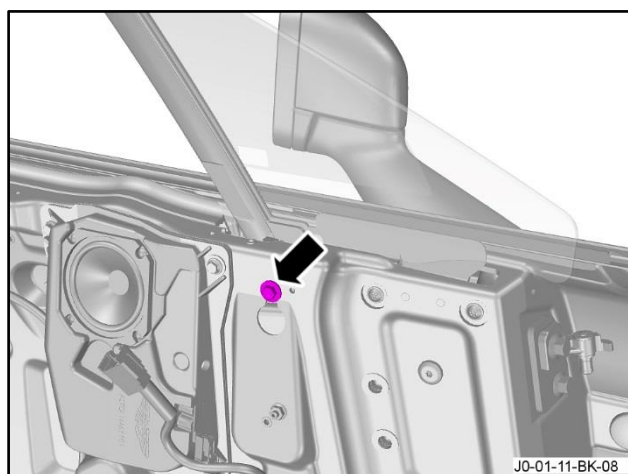

Figure 29
14. Install and torque the bolt to 9 Nm (refer to Figure 29).